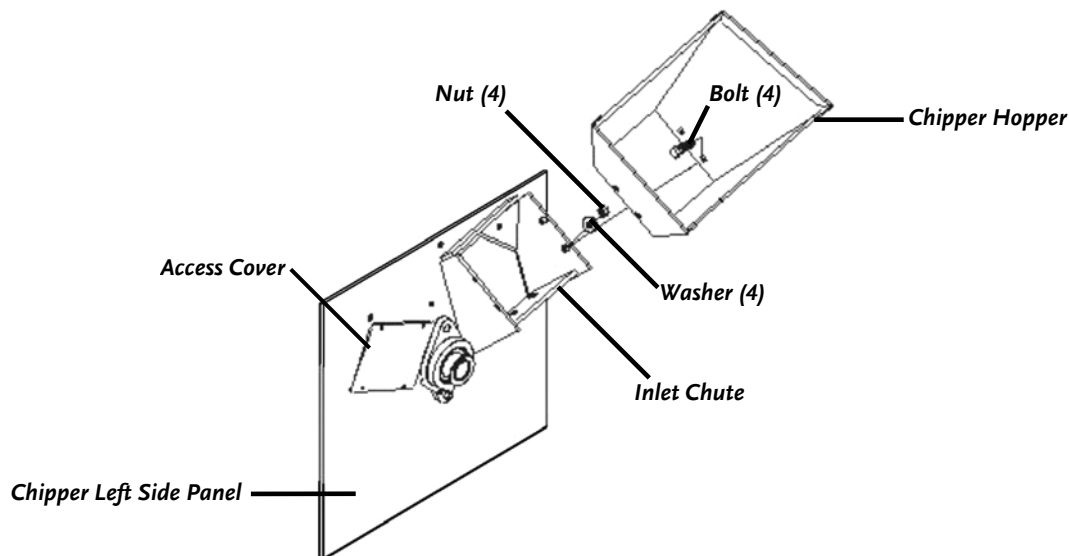

Figure 1
NOTE: Be sure to insert the bolts from the inside of the Chipper Hopper so that the threads are sticking out (Figure 1).
2. Install a Flat Washer, then a Lock Nut on each bolt. Initially install the Bolts and Nuts finger tight and then tighten the Nuts one (1) turn using two (2) 1/2" Wrenches (Figure 1). Check to see that the Hopper is centered on the Inlet Chute and then tighten the Nuts securely.